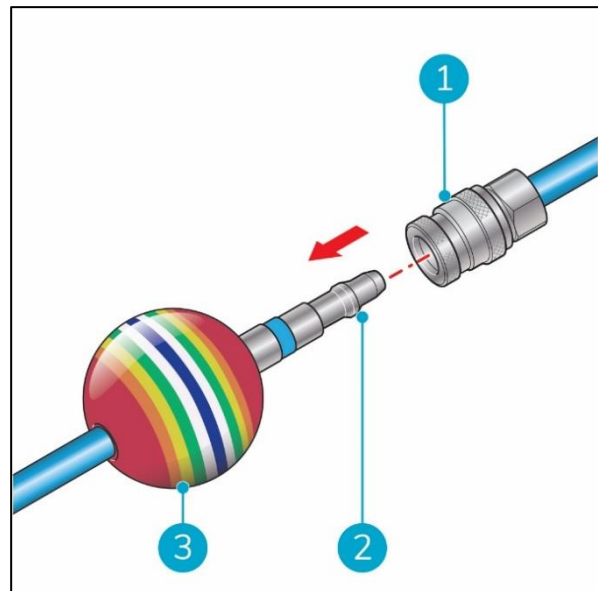

Figure 10
1. Connect the pole hose (Figure 10, pos 2) with the water supply hose (Figure 10, pos 1). The soft ball (Figure 10, pos 3) prevents the connection from being damaged.